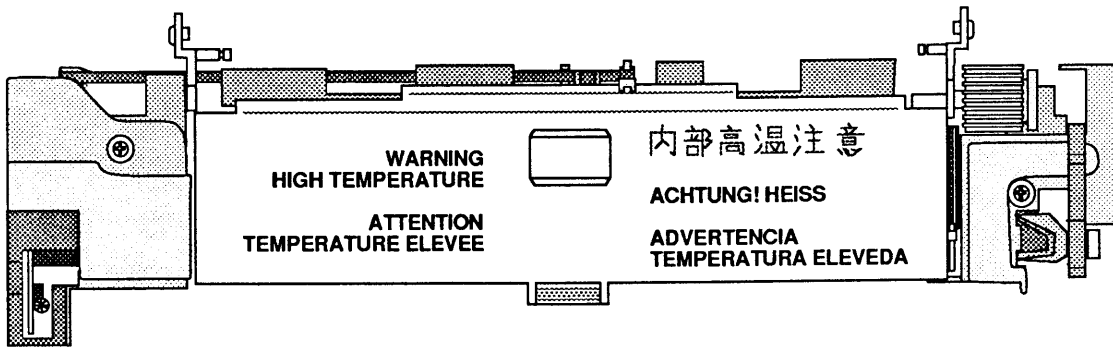

FIGURE 20
□ FUSER ASSEMBLY, TOP VIEW (Figure 20)